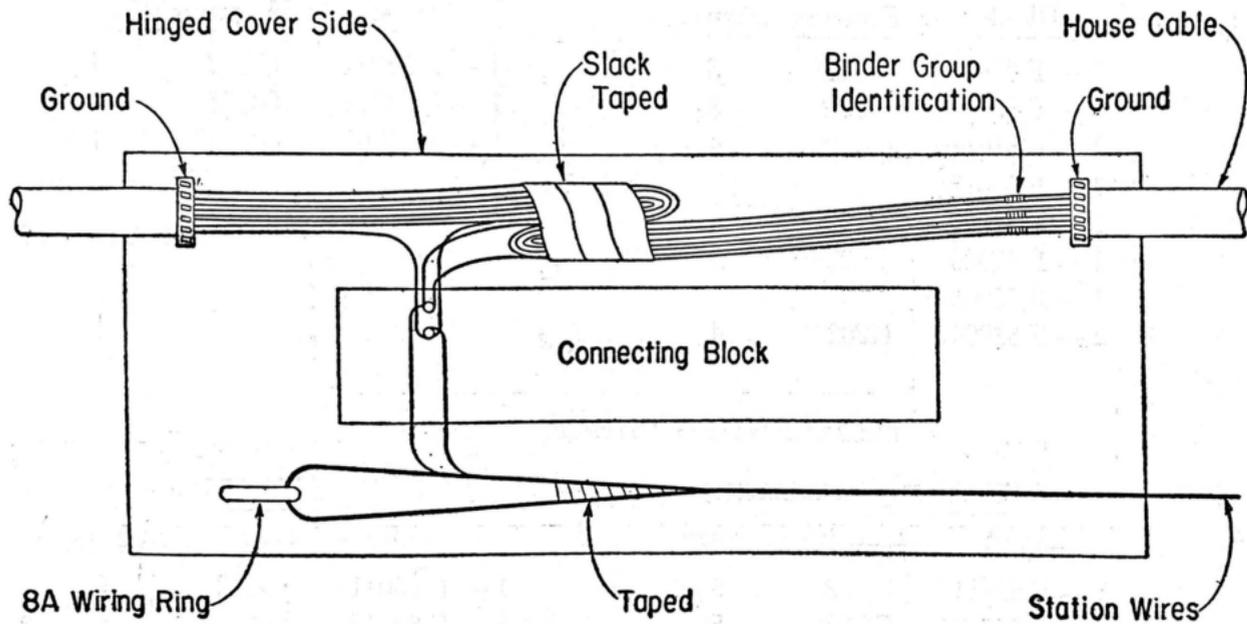

FIG. 1
6.08 In the horizontally mounted terminal the slack containing the remaining pairs in the cable is folded and taped and left in the upper portion of the box as shown in Fig. 1.